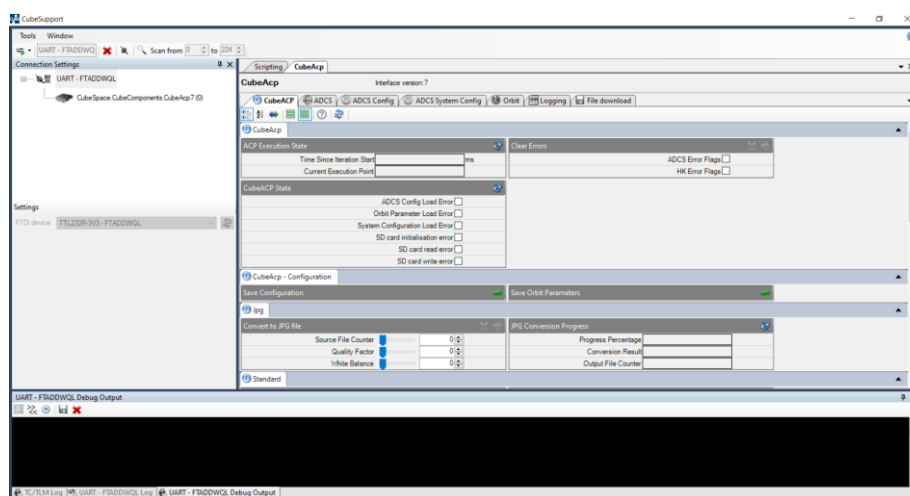

Figure 7 – CubeSupport connected to ACP
- Turn on the **CubeADCS** and wait for six seconds to pass before attempting to connect with **CubeSupport**. The bootloader will execute the ACP after five seconds. The **CubeSupport** application can connect to the ACP application and the **CubeSupport** application will display the window shown in Figure 7.